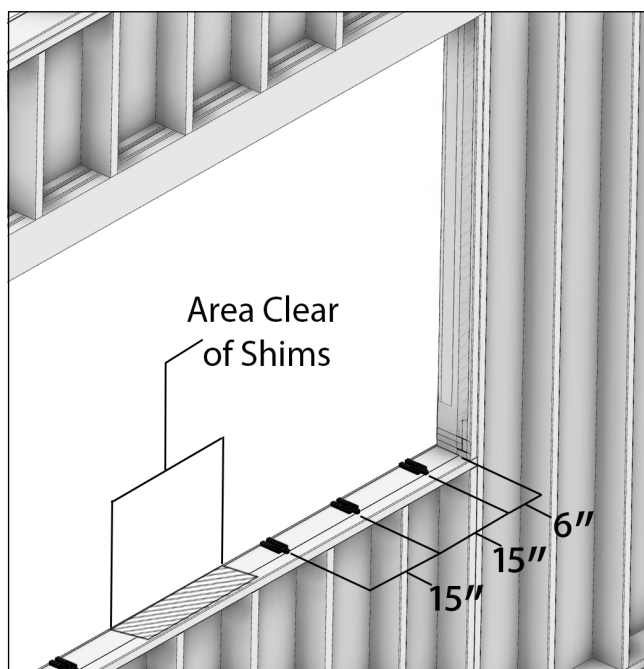

Figure 7
7. Shim unit: 1/16" shims are required to be applied to the sill prior to placing assembly in the RO. Do not shim under gusset plates. Shim spacing is 6" max from corner and 15" max on center. See Figure 7.